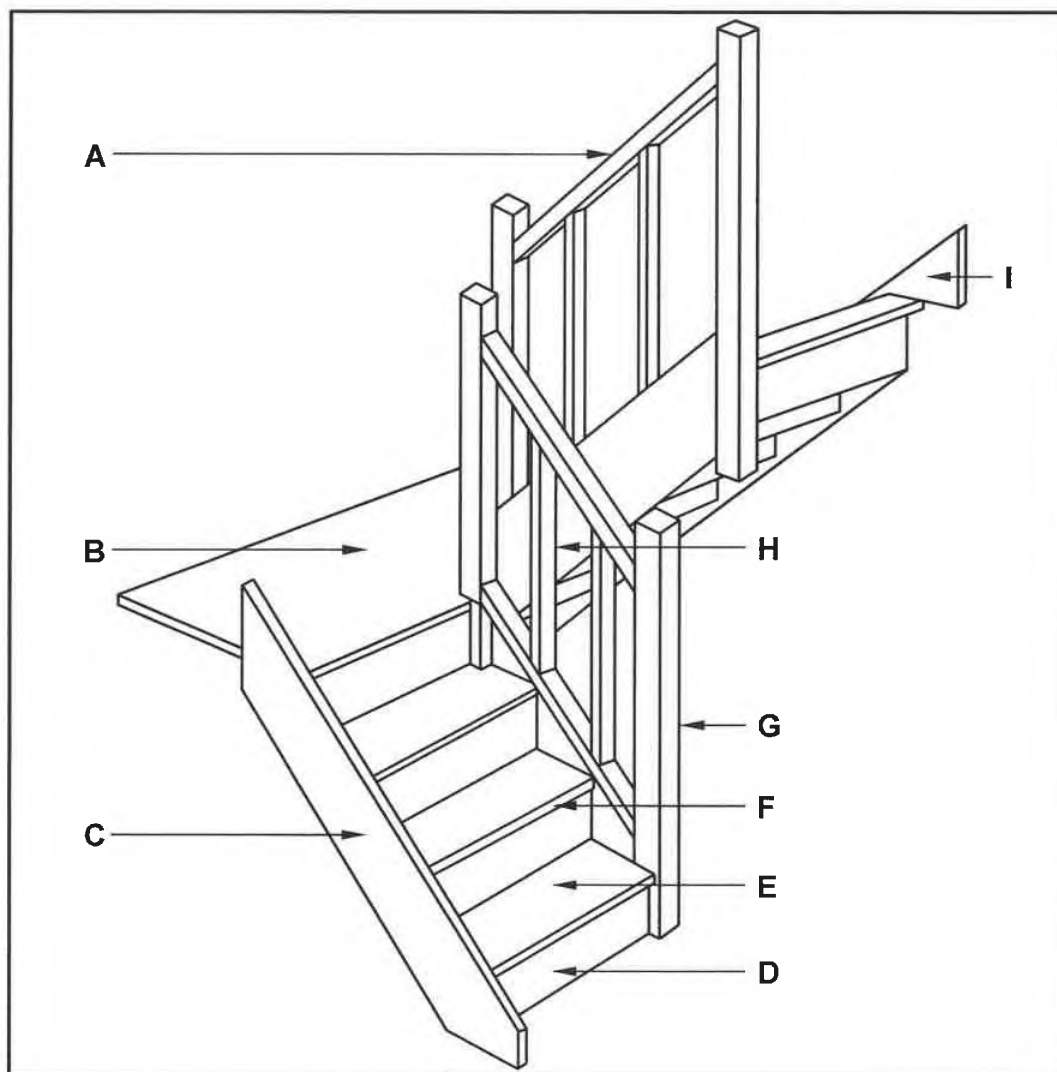

FIGURE 6.6
6.6 Study FIGURE 6.6 below. Match the word(s) in the list below with the labels in FIGURE 6.6. Write only the correct word(s) next to the label (A–I) in the ANSWER BOOK.